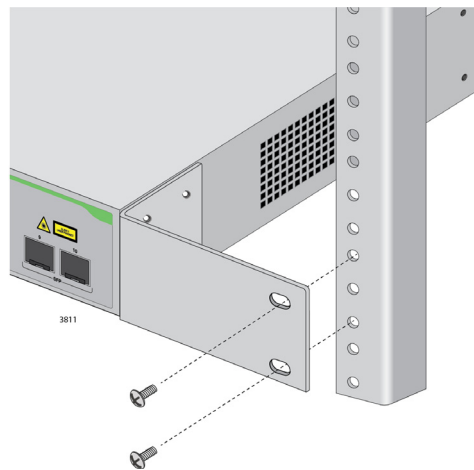

Figure 30. Mounting the Switch in an Equipment Rack
3. While another person holds the switch in the equipment rack, secure it using the equipment rack screws. See Figure 30.